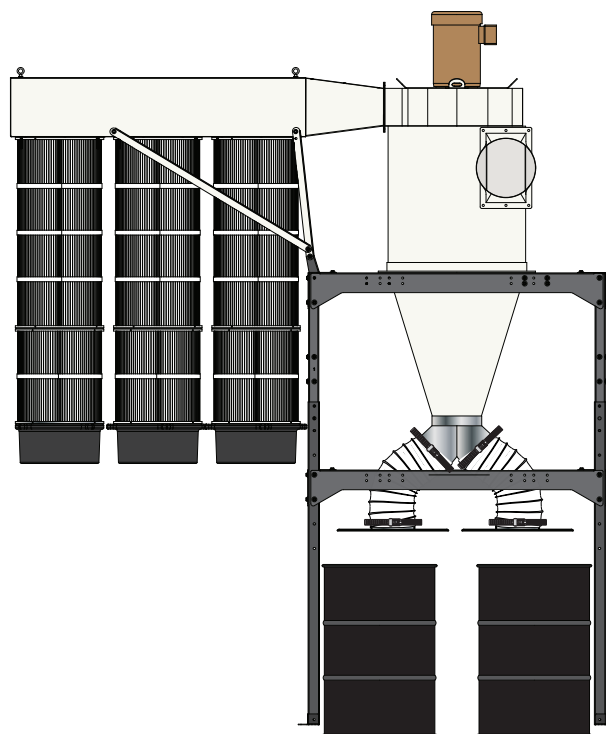

FIG. 21
Unclamp the Drum's Lids (K) and test to see if the Drums (L) are easy to remove from underneath the Wye (M) [FIG. 21].